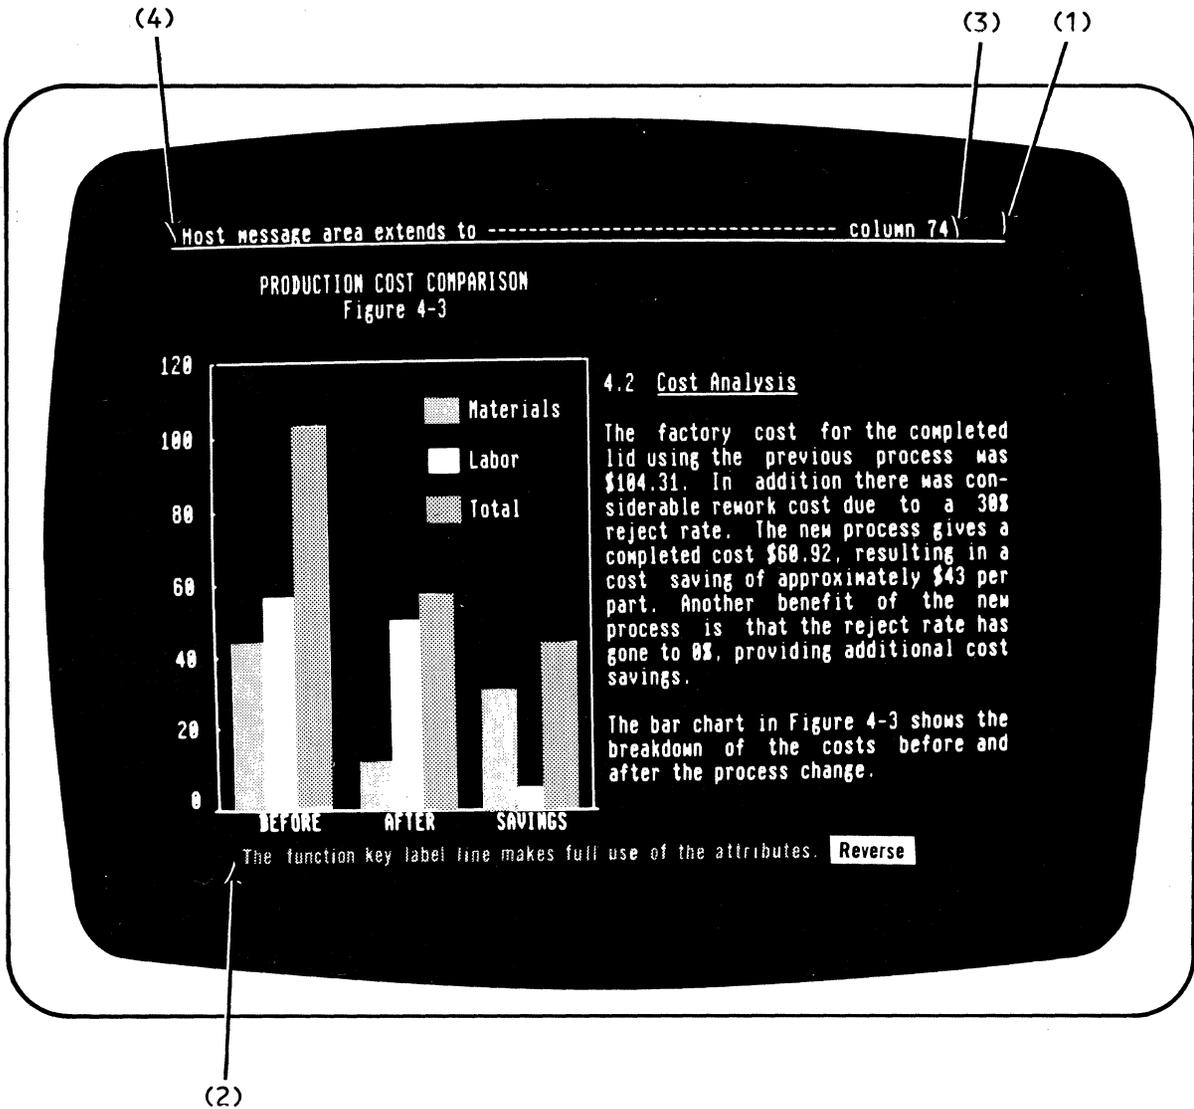

Figure 3-1
The terminal screen is organized into 24 rows of 80 characters each plus two rows for message and function key identification (see Figure 3-1).
*Vertical split column for separation and special screen effect enhancement. See also special attribute enhancement in Figure 3-1.
In addition to enhancing data or text with screen enhancement attributes, the terminal provides special screen enhancement attributes for different screen appearances (see Section 3.2 and Figure 3-1). These three special screen attributes can be set up by the ESC A command sequence and they are listed below (see Section 5.2.11 for more details):